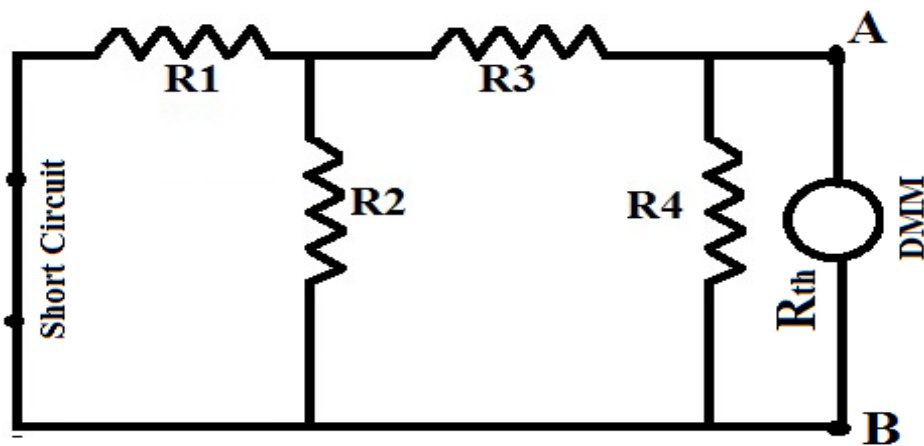

Fig:2.5
2. To find Thevenin's Resistance ( $R_{th}$ ), Short circuit the Voltage Source in the given circuit as shown in Fig 2.5 and find out the Thevenin's resistance across open circuited terminals after removing the Load Resistance with the help Digital Multimeter (DMM).